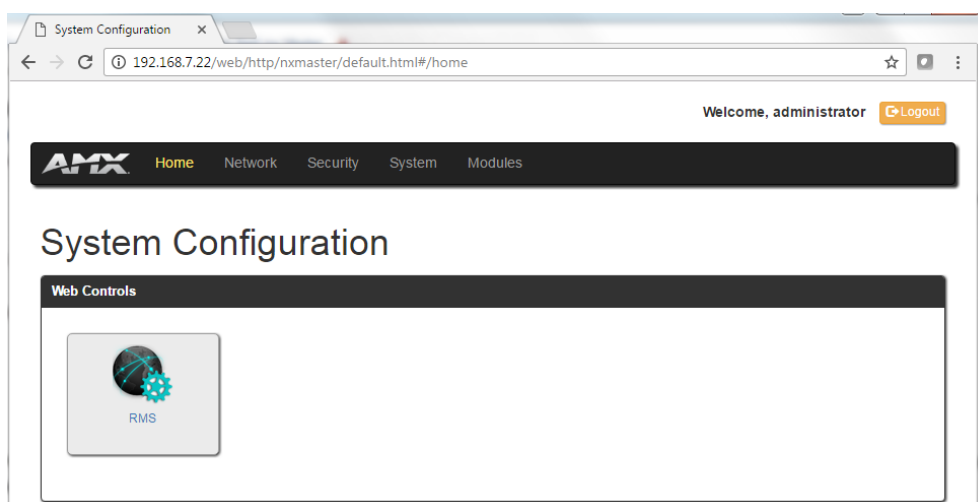

FIG. 481 NX Master -System Configuration
2. Click on **RMS** (FIG. 481):